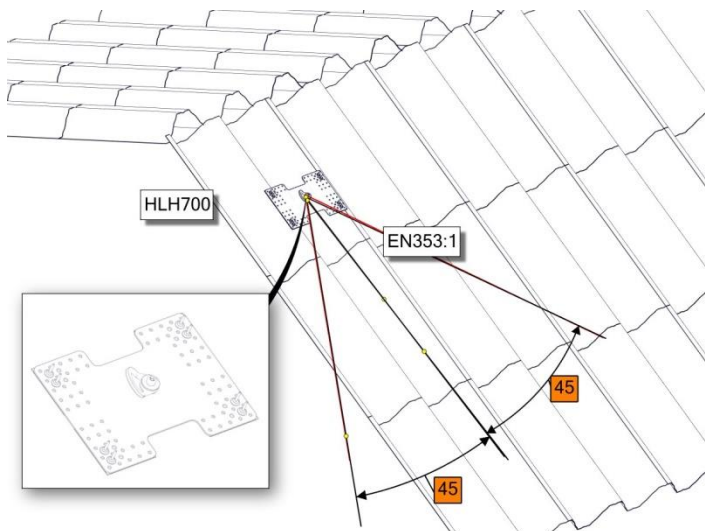

Figure 8. Installation of anchor point for work positioning
- When the post is installed using rivets, it can be used as an anchor point for work positioning. **Figure 8**